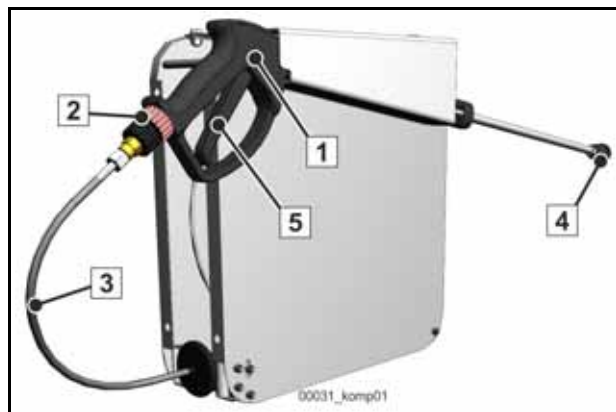

Fig. 433 Hose reel and spray lance
- Hold the spray lance tightly and direct the spraying nozzle (4) (**Fig. 433**) such that the water can flow out freely.
- Actuate the trigger of the spray lance (1) (**Fig. 433**) until water no longer escapes from the spraying nozzle.